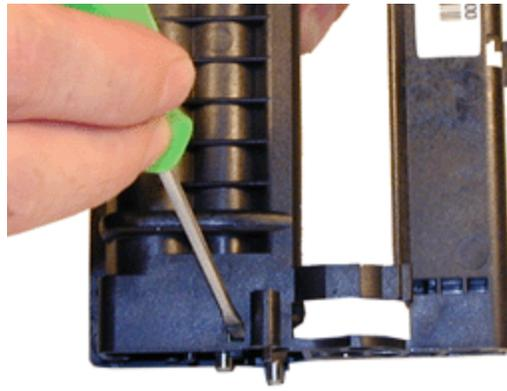

FIGURE 17
14. Press in on the bottom tab of the roller plate to release it. See Figure 17